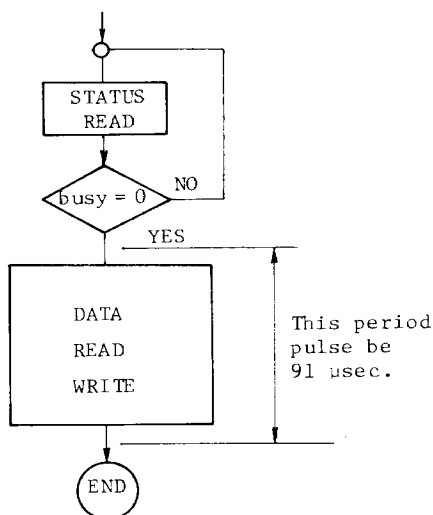

Fig. 5.3 Program Flow (1)
- (1) When it is clear that a series of counter reads or writes completes within 91 μ sec [for instance, read of second only, write of hour only (time difference correction)], the "busy" flag is used. The program flow in this case is shown in Fig. 5.3.